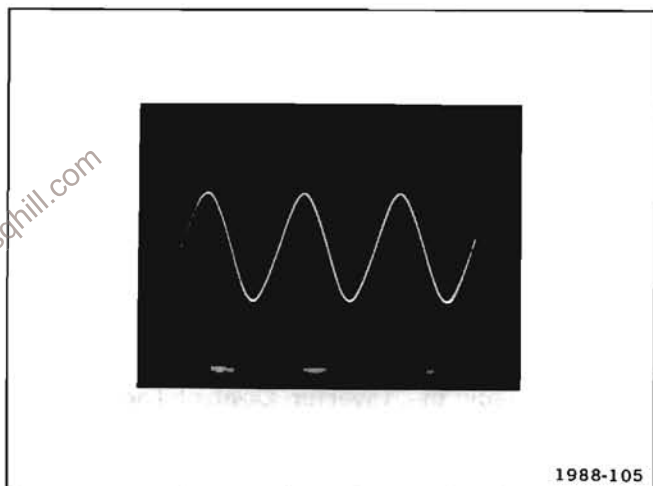

Figure 4-9. Waveform at TP 1234 on the power-supply inverter board with the line voltage at about 20 volts.
6. If no burst waveform occurred in part 4, repeat part 1 of this step. Then remove the current probe from the 7104 and the test oscilloscope. Connect a 10X voltage probe from the test oscilloscope to TP1234 on the A23-Inverter board. Set the variable autotransformer for 20 volts and check for a line-ripple waveform which is about dc centered (see Fig. 4-9). If the waveform is not centered check Q1246, CR1232, CR1240, CR1249, and CR1245 for shorts or leakage.